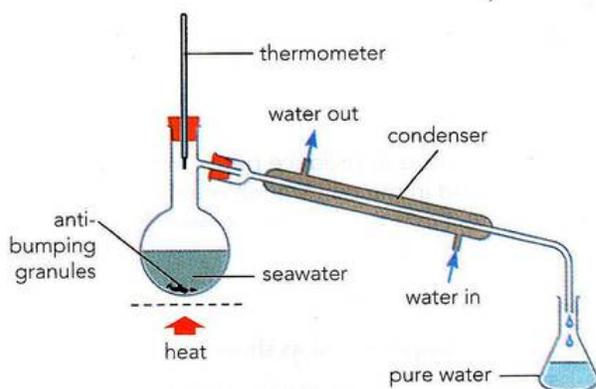

Figure 21.11: Simple distillation of seawater.
Seawater is a solution of various salts in water and Figure 21.11 shows how pure water can be obtained by simple distillation. Simple distillation can be used to obtain drinking water from salt water on a large scale (**desalination**).
- 1 Set the equipment up as shown in Figure 21.11.